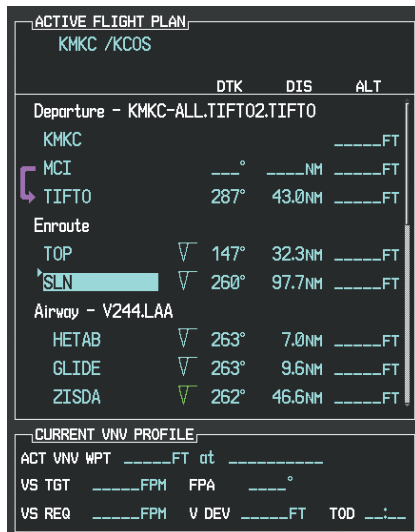

Figure 7-15 TOP Inserted into the Flight Plan
- d) Press the **ENT** Key. TOP is inserted into the flight plan as in Figure 7-15.
- e) With SLN still highlighted as in Figure 7-15, turn the small **FMS** Knob clockwise. The Waypoint Information Page is displayed and the **LD AIRWY** Softkey is now available.